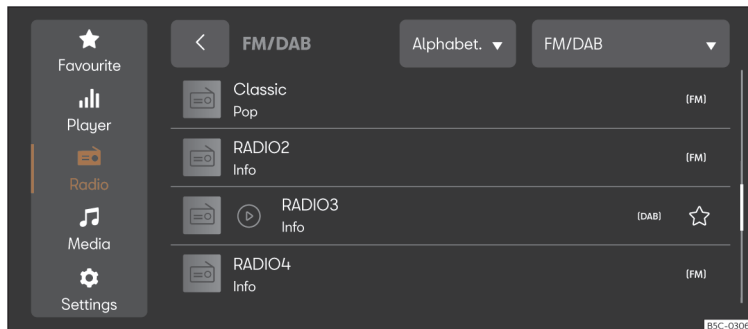

Fig. 177 Schematic representation: Radio view.
- Press **MENU** > >>> **Fig. 177**.